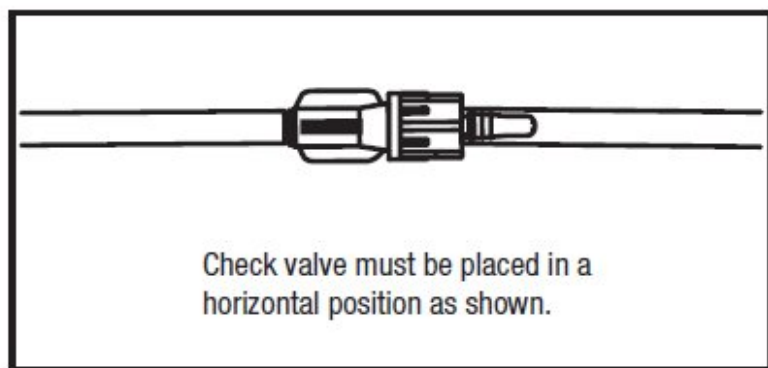
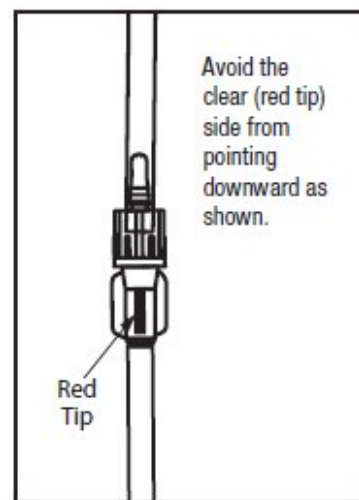

Figure 4a
Figure 4b
**Note: Do not place filter, breakaway cannula or check valve on lower half of the container. Check valve must be placed in a horizontal position (Figure 4a). Avoid the clear (red tip) side from pointing downward (Figure 4b).**